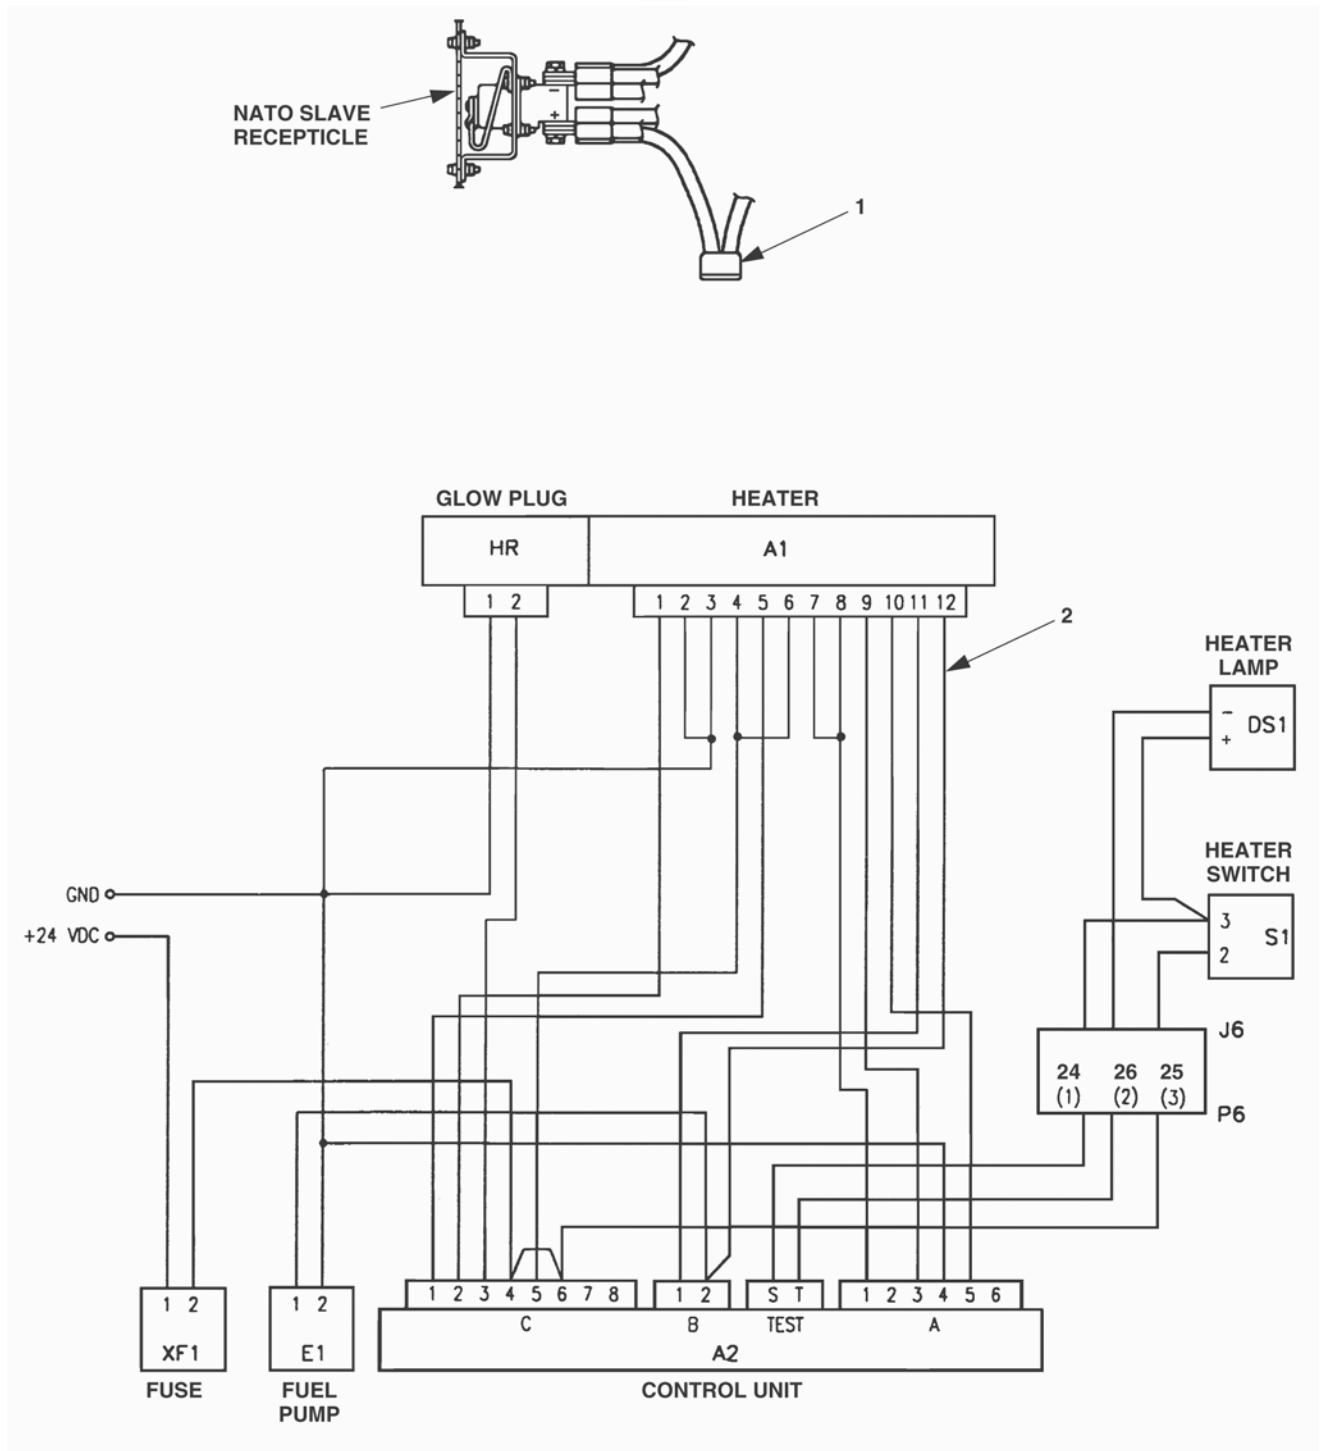
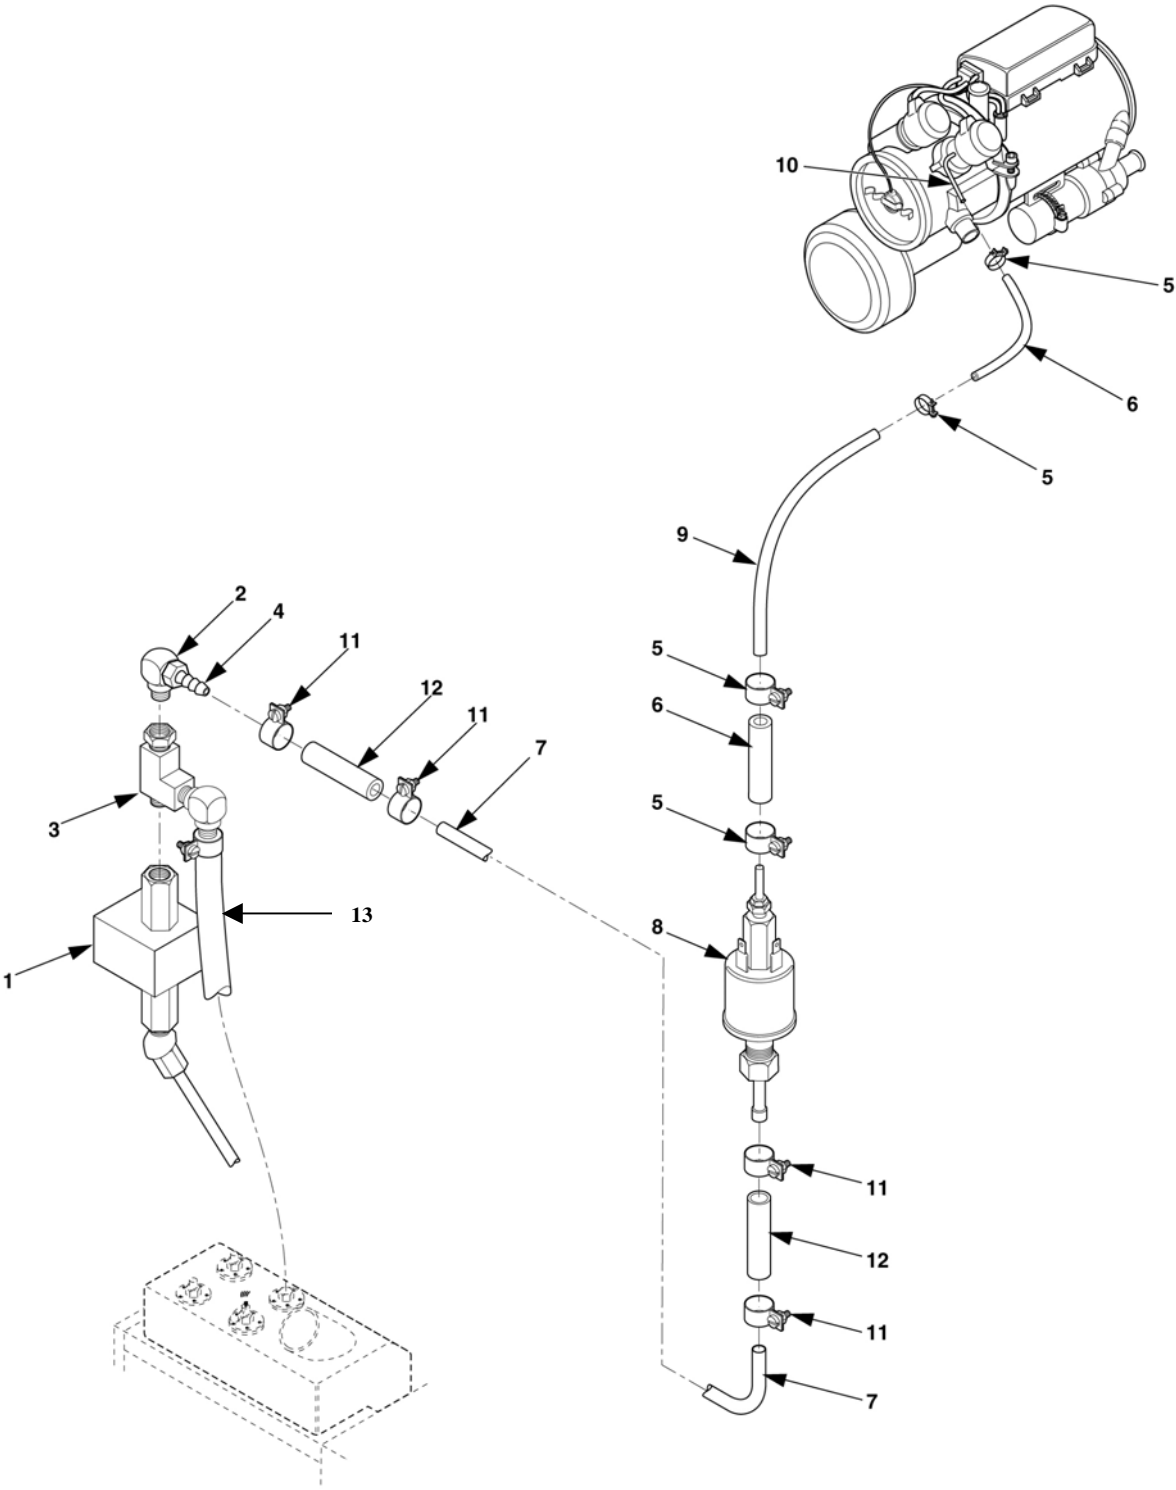

Figure 4-34. Wiring Harness Removal.
Figure 4-35. Fuel System Removal.
8. Remove electrical leads from P6-24, 25, 26 in accordance with wiring diagram, Figure 4-34.
12. Remove fuse holder (1), Figure 4-34, from the wiring harness (2), from (+) terminal of slave receptacle, and reassemble existing hardware.
13. Remove wiring harness (2).
15. Remove fuel tubing (7 and 9), Figure 4-35, butt splices (12 and 6), clamps (11 and 5) from fuel pump (8), and heater fuel intake (10), along with the adapter (4). Disconnect the fuel supply line (13), from tee fitting (3), remove elbow (2), then remove tee (3) from primary fuel pump (1) and reconnect fuel supply line (13).